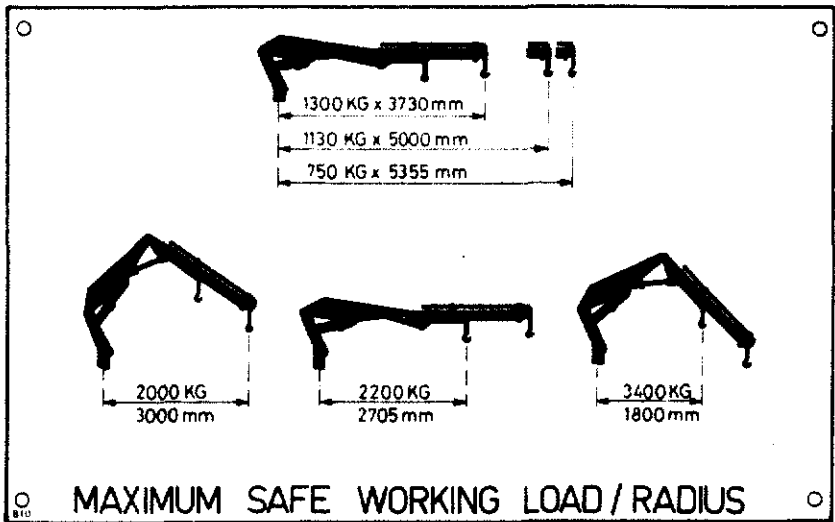

Fig. 25 Crane maximum safe working load/radius
- (d) Crane is now operational. Operate within the capabilities of the crane (See fig. 25).